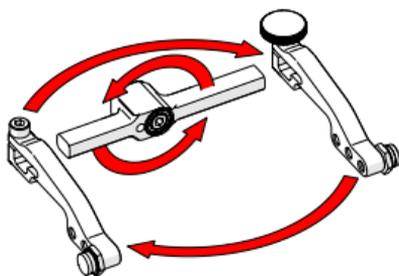

Fig. 82 - Flip yoke and reverse arms
4. Flip the yoke 180° and reverse the probe holder arms (Fig. 82).